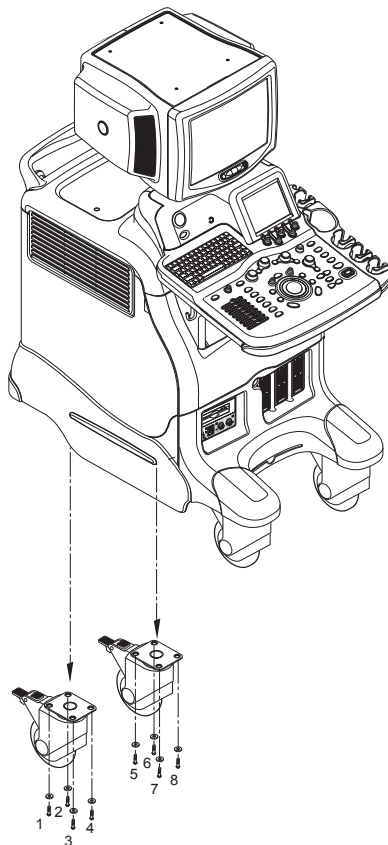

Figure 8-85 Removing the Rear Caster
- 2.) Remove the Rear Caster. Refer to Figure 8-85 on page 8-64 .